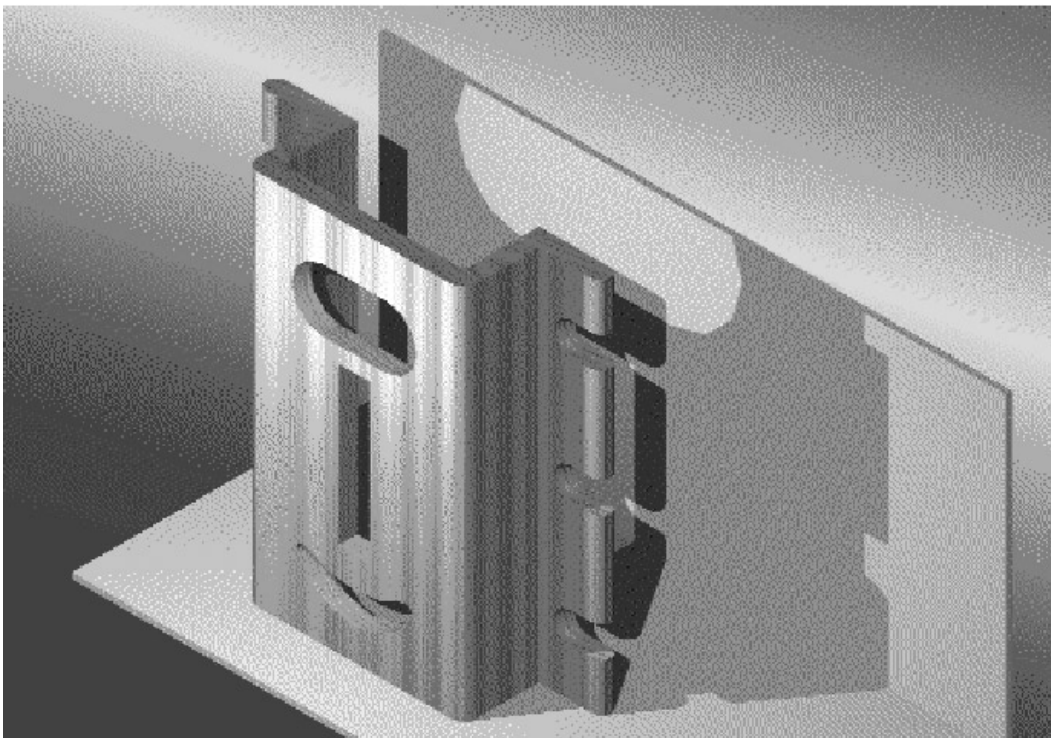

Figure 45.3 The rendered BACKING PLATE with materials attached.
- 22 A screen dump of the model is displayed in Fig. 45.3